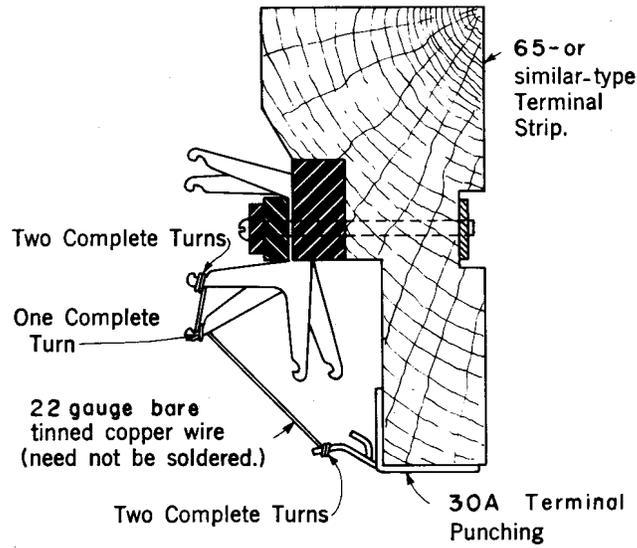

Fig. 2—Spare Conductor Ground Connection—65- or Similar Type Terminal Strip
6.04 With 65- or similar-type terminal strips on the main frame, ground connections shall be made as shown in Fig. 2.
6.05 To connect spare conductors to the ground terminal punching (Fig. 2), 22-gauge, bare-tinned, copper wire shall be used. Two turns shall be made around the 30A terminal punching nearest the conductors to be grounded, one turn around the back tap terminal of one conductor and then twice around the back tap terminal of the other conductor. The wire does not need to be soldered but shall be wrapped tightly around the terminals.